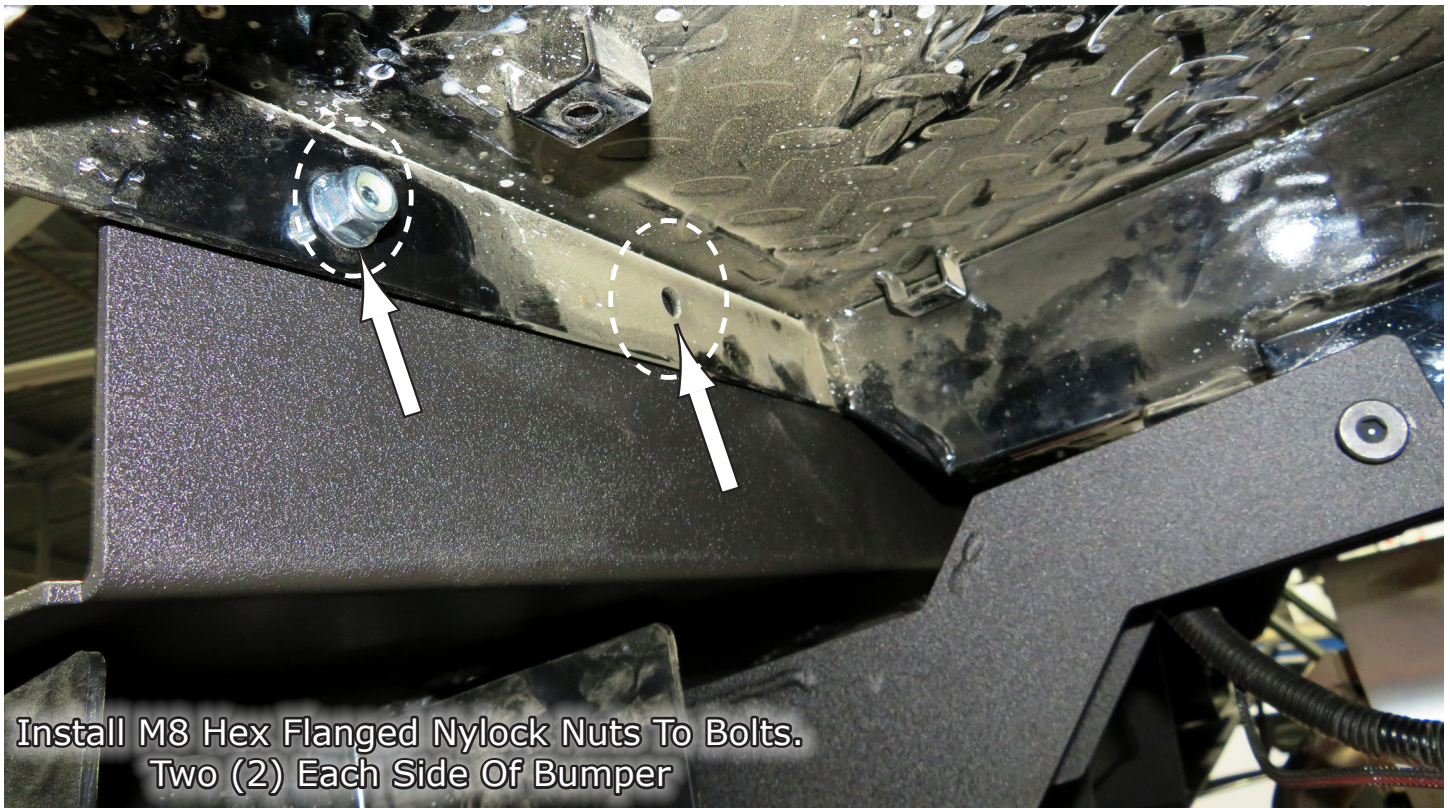
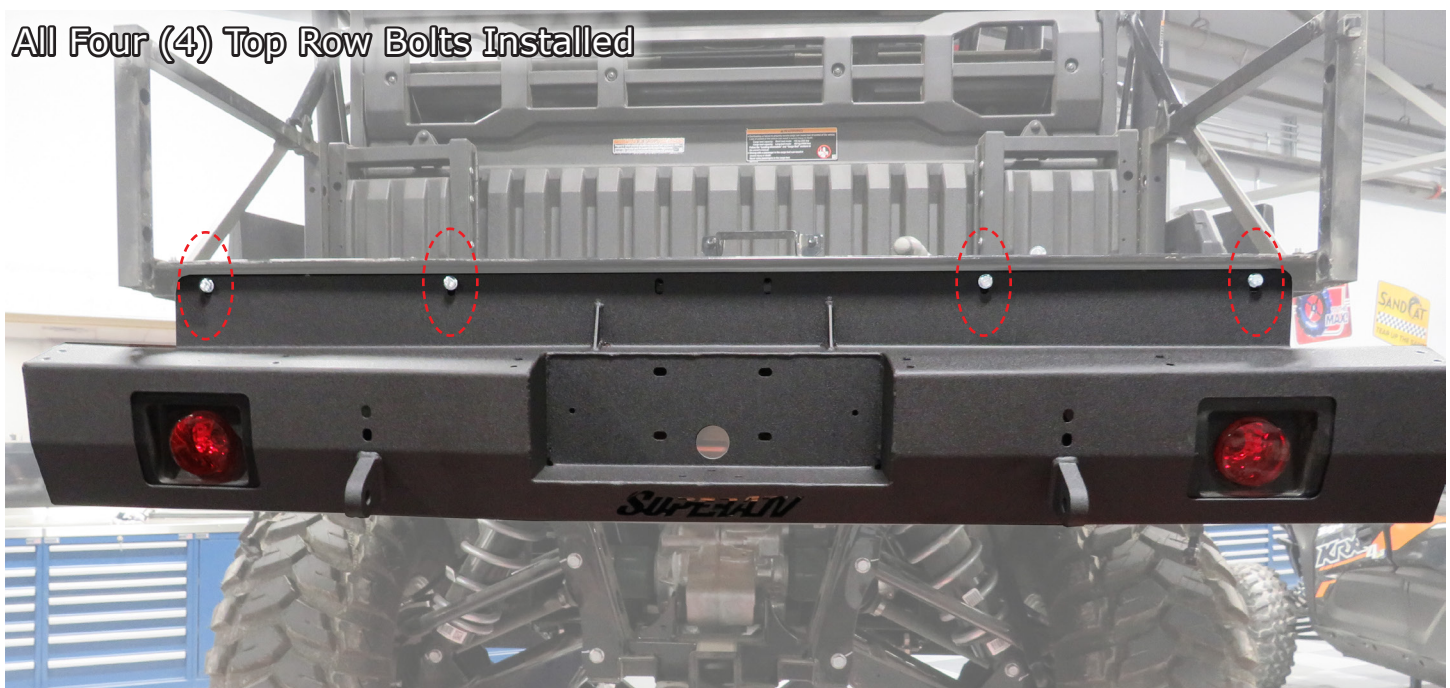

Fig.16a
Fig.16b
16. Install the **M8x25 Hex Flanged Nylock Nuts** on those **Four (4) Bolts**. Two (2) each side of **Bumper**. Leave loose for now. See **Fig.16a**. **Fig.16b** shows the **Bolts** Installed to this point.